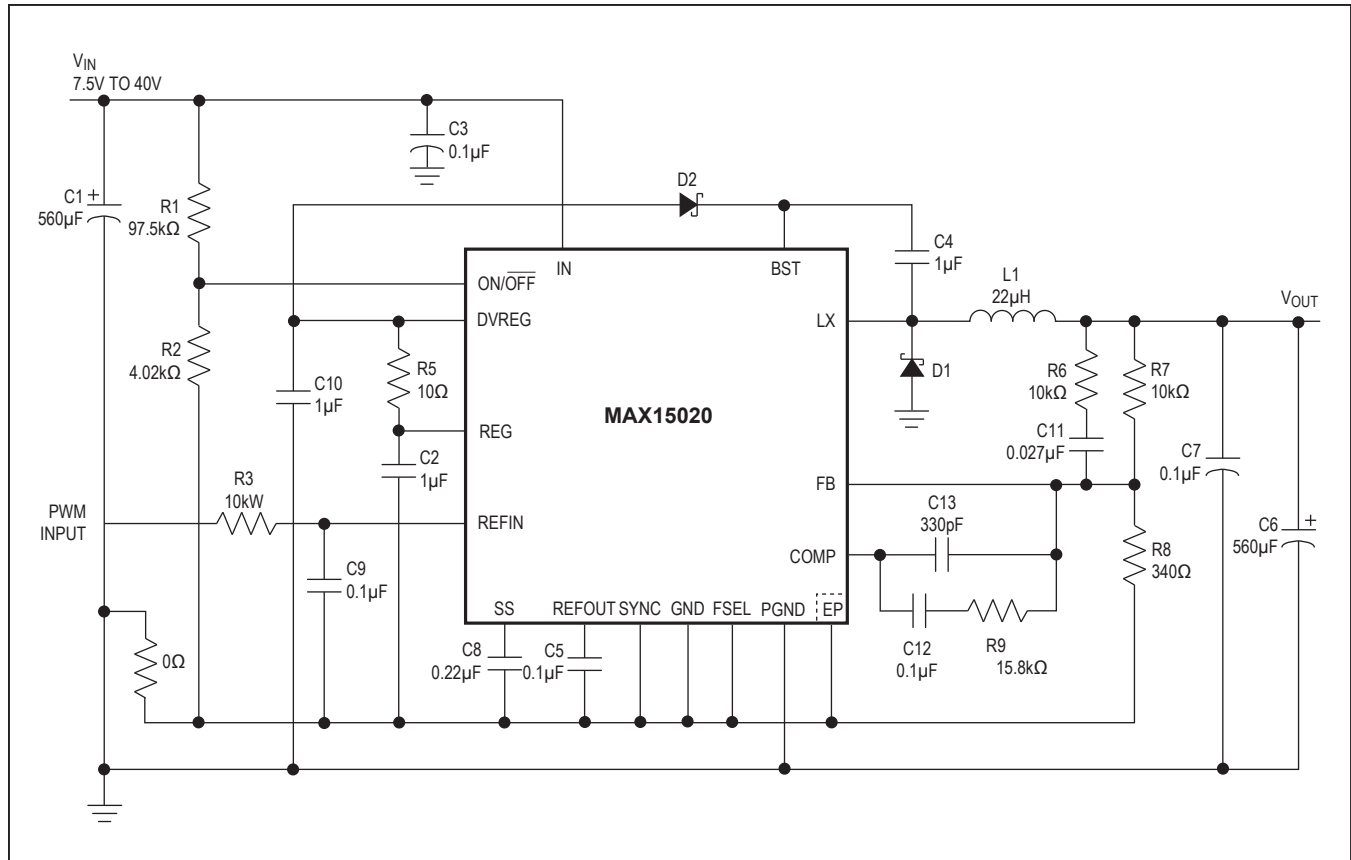

Figure 2. Typical Application Circuit
($V_{IN} = 36V$, Circuit of Figure 2, $T_A = +25^\circ C$, unless otherwise noted.)
(V_{IN} = 36V, Circuit of Figure 2, T_A = +25°C, unless otherwise noted.)
Typical Operating Characteristics (continued)(V_{IN} = 36V, Circuit of Figure 2, T_A = +25°C, unless otherwise noted.)
The MAX15020 features a reference input for the internal error amplifier. The IC regulates FB to the SS voltage which is driven by the DC voltage applied to REFIN. Connect REFIN to REFOUT to use the internal 0.98V reference. Connect REFIN to a variable DC voltage source to dynamically control the output voltage. Alternatively, REFIN can also be driven by a duty-cycle control PWM source through a lowpass RC filter (Figure 2).
When the voltage at ON/OFF rises above 1.225V, the MAX15020 turns on. Connect a resistive divider from IN to ON/OFF to GND to set the turn-on voltage (see Figure 2). First select the ON/OFF to the GND resistor (R2), then calculate the resistor from IN to ON/OFF (R1) using the following equation:
Connect a resistor-divider from OUT to FB to GND to set the output voltage (see Figure 2). First calculate the resistor (R7) from OUT to FB using the guidelines in the *Compensation Design* section. Once R7 is known, calculate R8 using the following equation:
The basic regulator loop consists of a power modulator, an output feedback divider, and a voltage error amplifier. The power modulator has a DC gain set by V_{IN}/V_{RAMP} , with a double pole and a single zero set by the output inductance (L), the output capacitance (C_{OUT}) (C6 in the Figure 2) and its ESR. The power modulator incorporates a voltage feed-forward feature, which automatically adjusts for variations in the input voltage resulting in a DC gain of 9. The following equations define the power modulator: